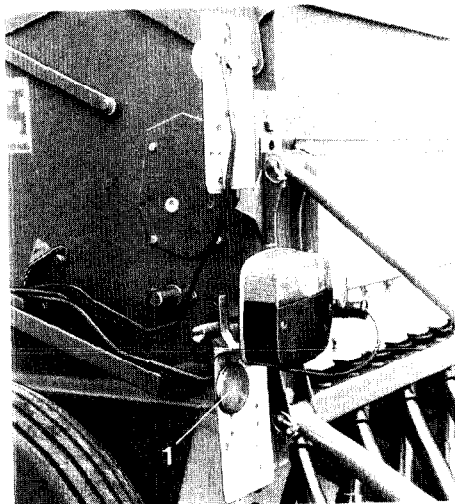
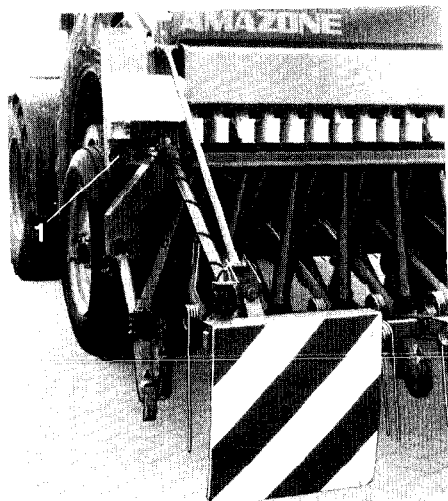

Fig. 31
Fig. 32
- Place the legally permissible traffic lights on the light carriers mounted on the sides of the drill (Fig. 31) in such a way that the upper mounting is used for the front facing lights and the lower mounting for the light facing to the rear. Lift the seed drill only so high that the distance from the road to the rear reflectors (Fig. 31/1, Fig. 32/1) does not exceed 900 mm. Fig. 32 shows the firmly mounted traffic lights (order No. 30690), which may stay on during field operation.